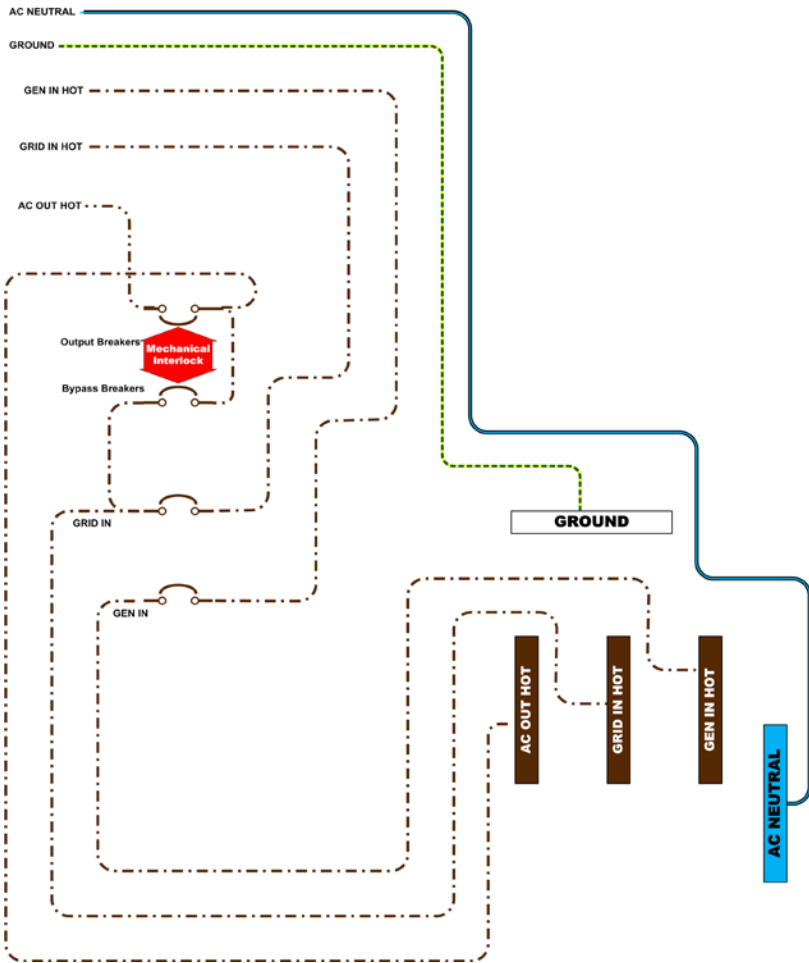

Figure 5 Basic AC Wiring
3. Apply the correct label from the label set to the chassis near each bus bar for identification purposes. Figure 2 shows the standard locations for these bus bars. Figure 5 on page 8 shows the intended label positions.
The GS-IOB-230VAC comes with six brown and one blue wire that are labeled according to their intended electrical connection. It also comes with an unlabeled green wire and two unlabeled short brown wires. If the preceding steps are followed, as well as the drawing in Figure 5, these wires will have sufficient length to make the intended connections.
2. For each of the six wires, install the wire's ring terminal on the appropriate terminal post for each circuit breaker according to Figure 5. Typically each post is equipped with two identical star washers. The ring terminal on the wire should be installed between these star
3. Install the two short wires between the input, output, and bypass circuit breakers as shown in Figure 5.
6. Connect the brown wires from each circuit breaker to the appropriate bus bar as shown in Figure 5.